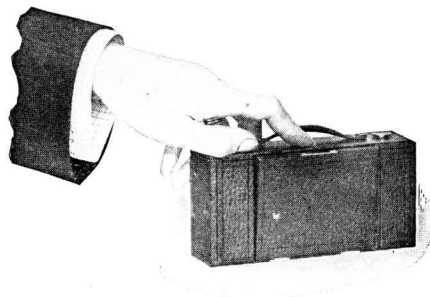

FIG. 1. Opening the Front
1. Press the concealed button as shown in Fig. 1, and push down the bed of camera to the limit of motion.